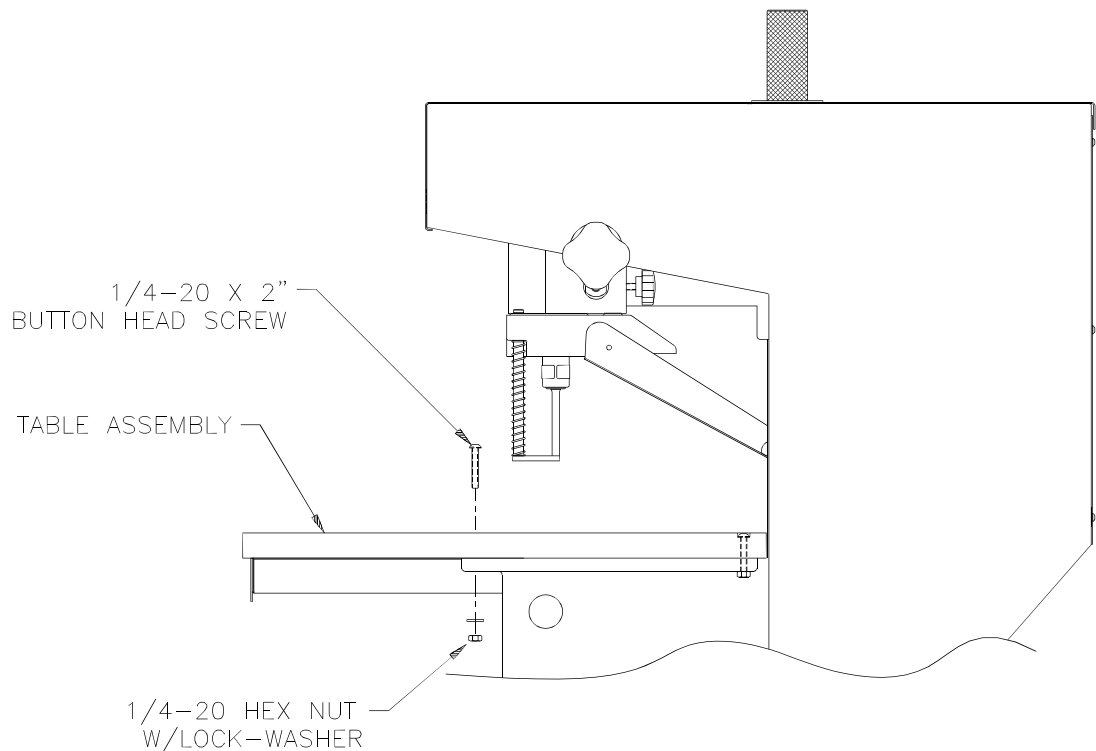

Figure 2
Locate the four (4) table mounting bolts, washers, & nuts shipped in the backgauge box. Set the table assembly in place and attach using the hardware as shown in Figure 2, but leave the hardware loose.